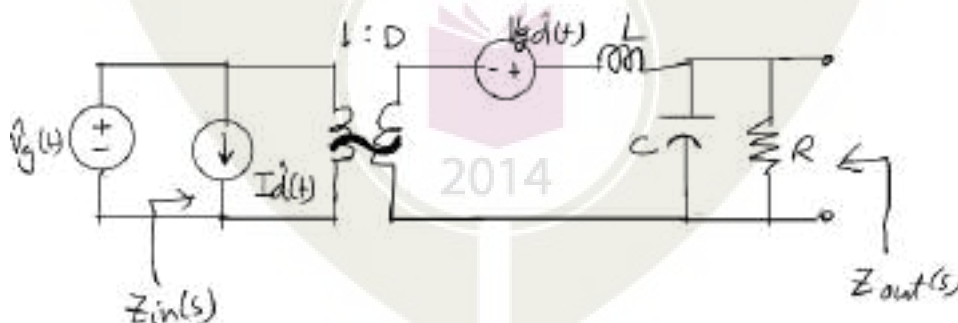

Figure 2.
- 14 Identify the switch network in the ideal buck converter such that the relative connections between the switch and the diode are not disturbed. Mark port voltages and currents, identify the port voltage and current waveforms, average them and develop an averaged linear model with transformer representation for this switch network (not the converter). (14)
- 15 (a) Figure 2 shows the small-signal model of a buck converter. Evaluate the output-to-control transfer function,  $G_{vd}(s) = \frac{\hat{v}(s)}{\hat{d}(s)}$  from this equivalent circuit, by applying circuit manipulation techniques. Express the transfer functions in the standard form, where the quality factor  $Q$ , resonant frequency  $\omega_0$ , dc gain  $G_0$  etc., are visible. (9)